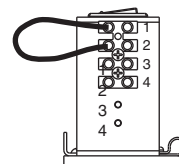

Figure 2
- D. Using a short jumper cable, jump terminals 1 and 2, see Fig. 2 below, to activate unit. When door reaches 20°, switch Breaker Switch to "OFF" position cutting power to the unit. Allow door to fully close (door may be manually pulled closed).
G. Flip Breaker Switch to “RESET” to turn power on. Jump terminals 1 and 2 (as shown in Fig. 2) to activate door. Note open position of the door. Allow door to close.